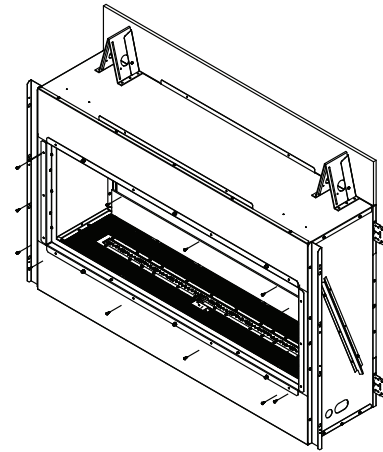

Figure 5
9. Attach the inner glass assembly frame to the appliance face with the self drilling screws provided. See Figure 5.